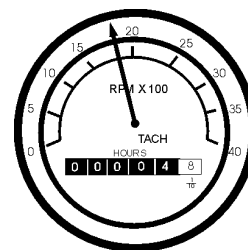

Figure 50. Engine Tachometer
15. The tachometer (Figure 50) will indicate the speed of the engine when the generator is operating. Under normal operating conditions this speed is approximately 1500 RPM's.